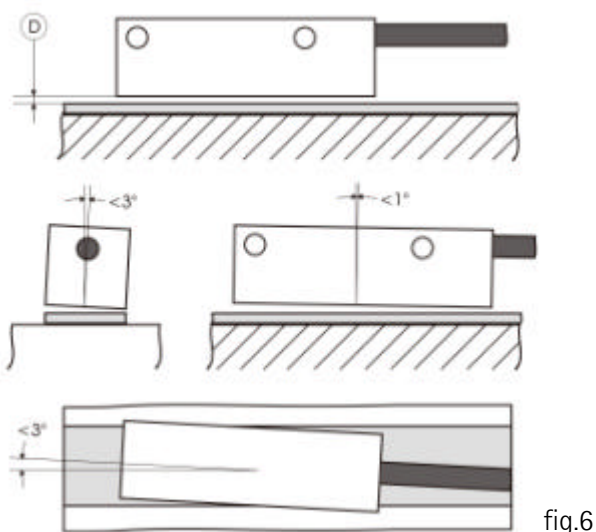

fig.6
Sensor can be fixed by means of two M4 screws over the buttonholes. Make sure that the gap between sensor and tape is in respect with (fig. 6) along the total measuring length. Avoid contact between the parts. You can check planarity and parallelism between sensor and magnetic tape using a feeler gauge.
- gap between sensor and tape out of tolerance (see fig. 6)